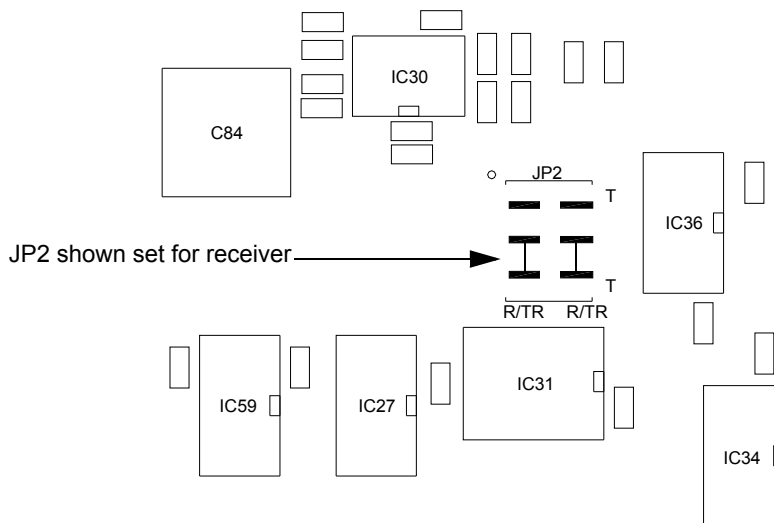

Fig 5-1 Processor Module JP2 Location
- (1) Place the module in position. Ensure no wires are trapped by the module. Ensure jumper JP2 on the module is set to 'R/TR' for receiver (see Fig 5-1).